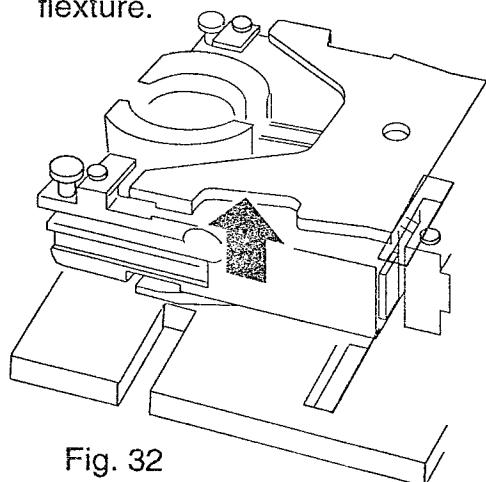
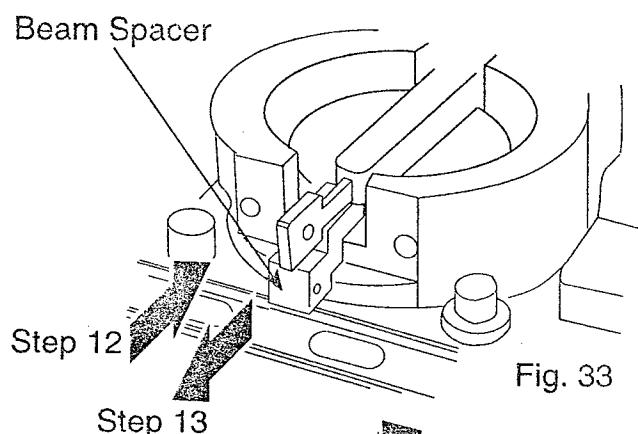
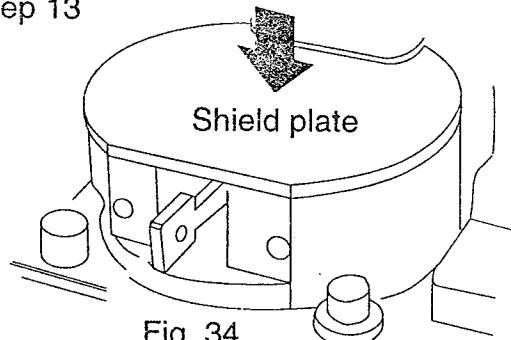

Fig. 32
Fig. 33
Fig. 34
Step 12. Insert the spacer under the end of the beam (Fig 33) and tighten the tension flexure.
Step 13. Remove the Force Motor from main fixture. (Fig 32) Remove the spacer. (Fig 33) Place the shield plate. (Fig 34)